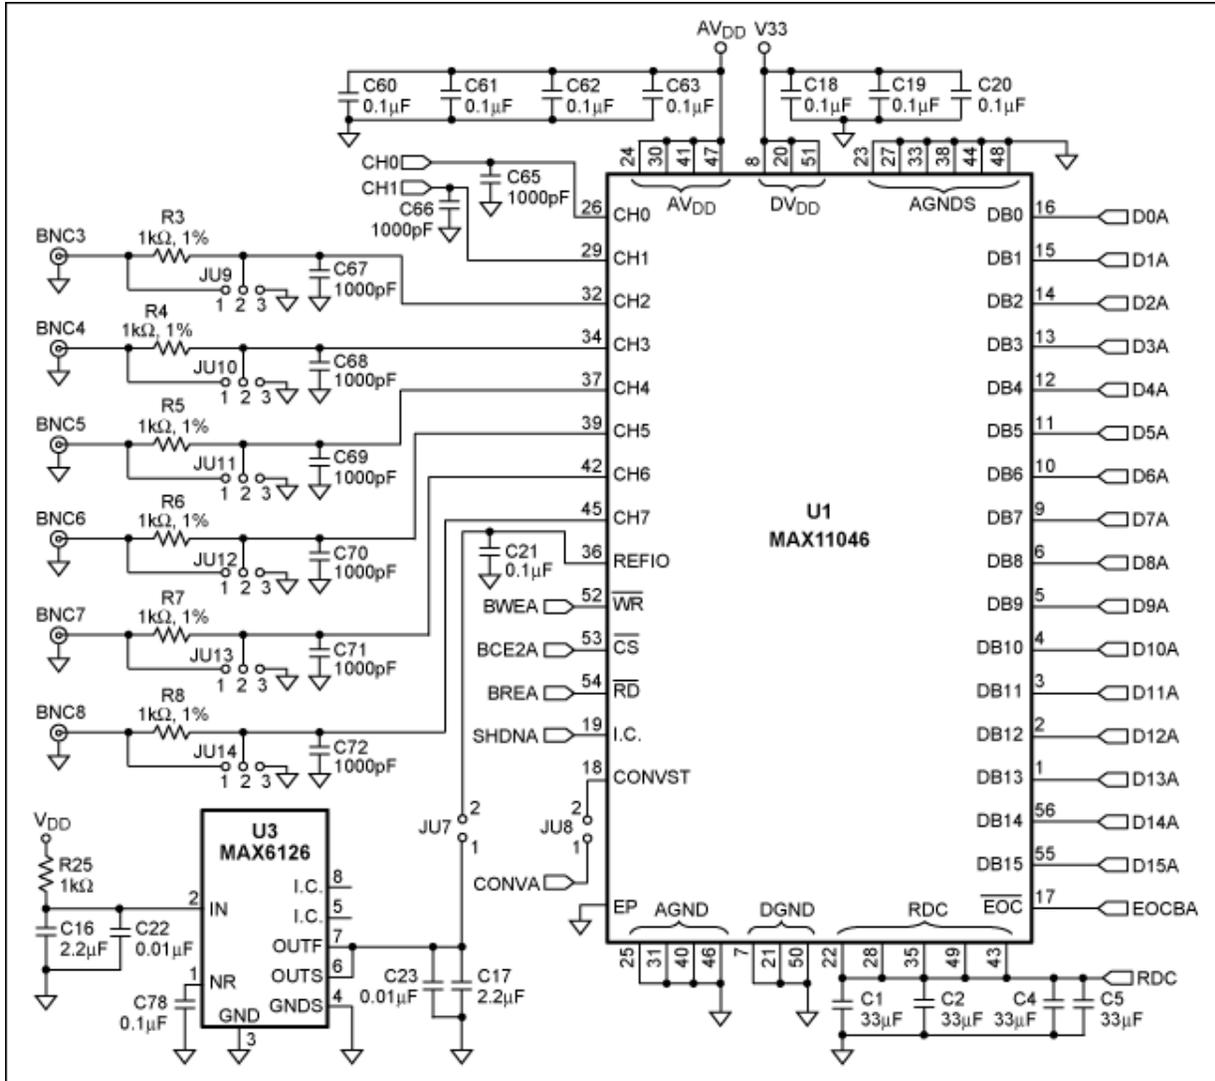

Figure 6. The MAX11046 in a typical connection scheme.
A practical example of these considerations with the MAX11046 is shown in **Figure 6**. This schematic is implemented as a part of the MAX11046 evaluation (EV) kit. The input schematics for channels 2 through 7 demonstrate a direct connection scheme where an external signal can be directly applied to the ADC without a buffer. Optimal resistors and capacitors for a 10ksps sample rate are found in the Table 5. The values of $R = 4.6\text{k}\Omega$ and $C = 1000\text{pF}$ are an attractive combination for power-line monitoring applications. Channel 0 and Channel 1 in the EV kit can be configured for use with an external buffer, which is needed for applications requiring sample rates of 100ksps or higher. This EV kit can be ordered from the ADC business unit at Maxim®, and it will help to substantially speed up DAS development.